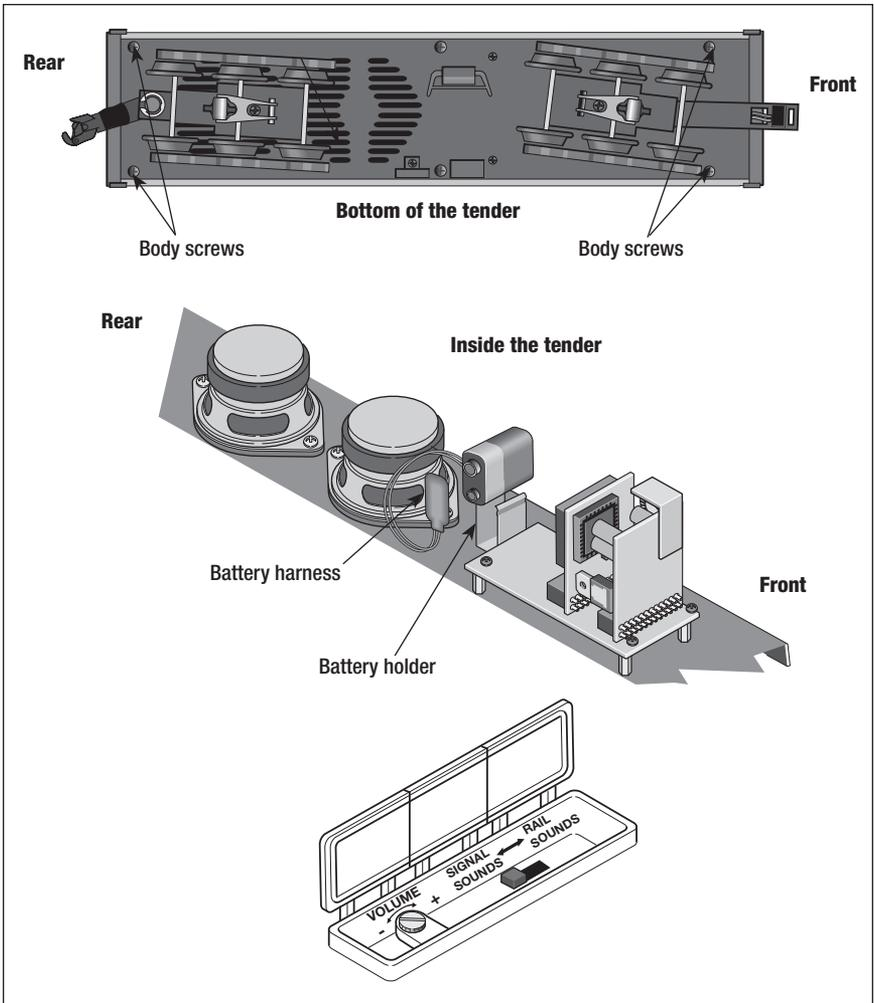

Figure 2. Installing the battery in the tender
Although the LEGACY RailSounds sound system is powered through the track, we recommend that you install a nine-volt alkaline battery in the tender to prevent the sound system from shutting down during track power interruptions (for example, at a switch or a dirty section of track). Follow these steps and refer to Figure 2 on page 7 as you install the battery.
1. Remove the body screws from the underside of the tender. Refer to Figure 2 on page 7 for the location of the screws.